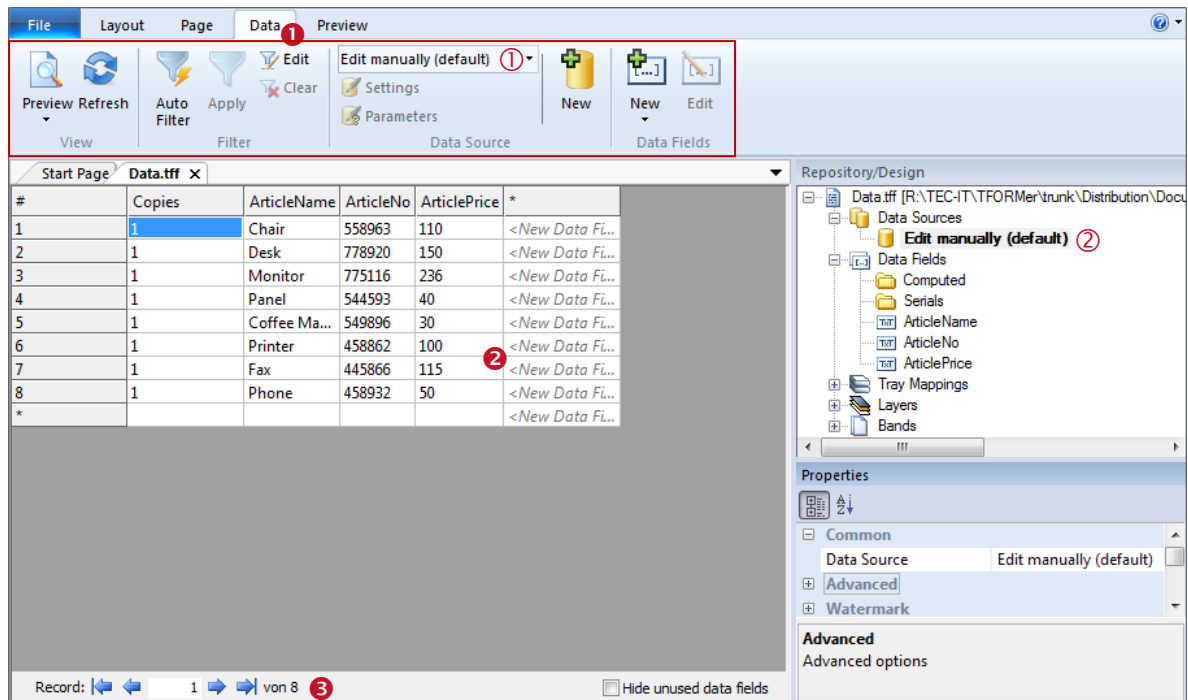

Figure 63: Data View
To switch to a specific data source use the menu command **Data Source | Edit manually (default)** and select the respective item from the drop-down list (see also Figure 63, ❶). Alternatively you can